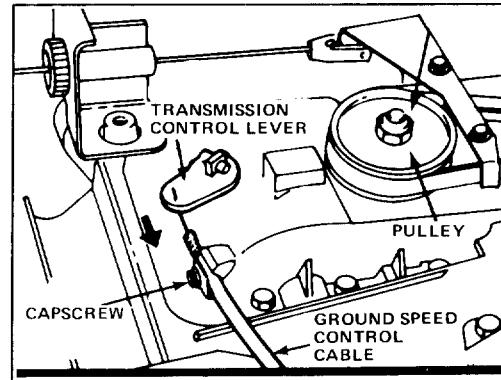

Figure 21
2. Remove (2) capscrews and lift off transmission cover (Fig. 21).
3. ADJUSTMENT (Fig. 21)—Loosen cable clamp screw until cable conduit slides. Push transmission control lever toward cable clamp screw until control lever "snaps" into neutral detent. Pull cable to remove slack and tighten clamp screw.
tate (Fig. 21). If pulley does rotate, readjust for neutral; refer to step 3.